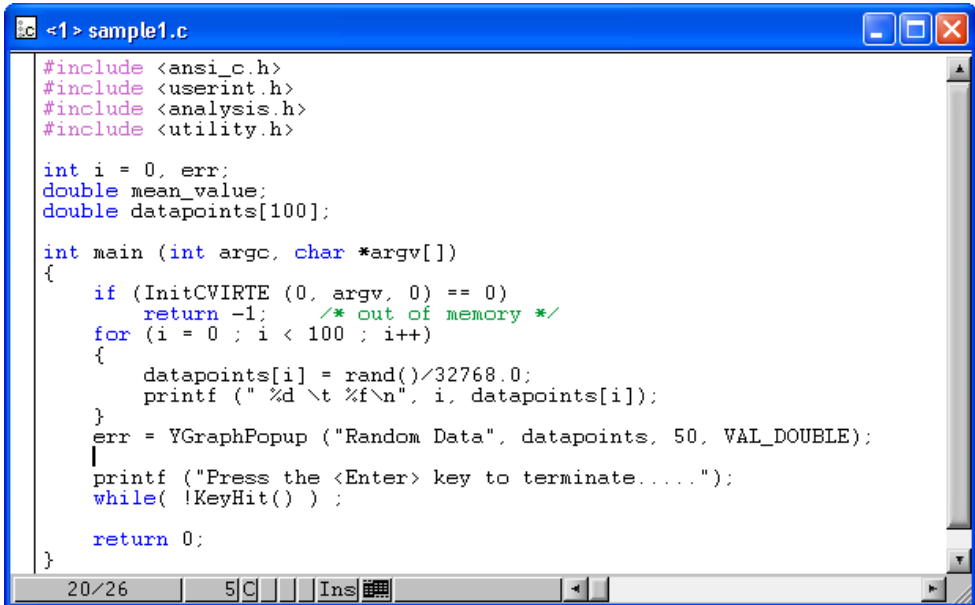

Figure 3-5. Source Window with Code Inserted from Function Panel
2. Select **Code»Insert Function Call**. LabWindows/CVI pastes the code from the Generated Code pane of the function panel to the `sample1.c` source code at the position of the text cursor in the source file, as shown in Figure 3-5. Confirm that the new function appears immediately after the For loop.